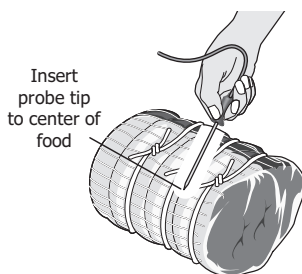

**Figure 34: Probe receptacle location/insertion point**
The probe receptacle is located at the top of the oven cavity as shown in Figure 34.
**⚠ CAUTION** Handle the meat probe carefully when inserting and removing from food or probe receptacle. Do not use kitchen utensils, such as tongs, to pull on meat probe cable when inserting or removing from food or receptacle. Use the provided handle, as shown in Figure 34. To avoid possibility of burns after cooking, carefully unplug meat probe using a pot holder to protect hands.